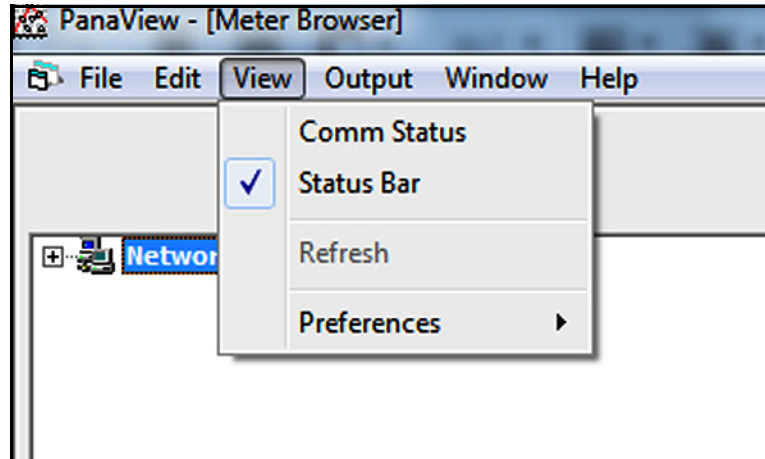
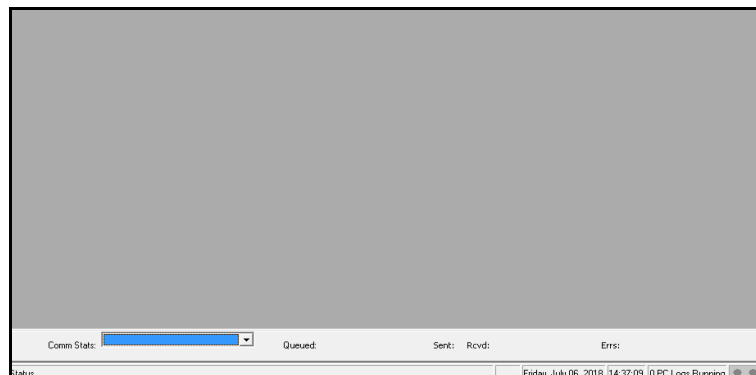

Figure 12: The View Menu
Figure 13: The Comm Status Bar
- **Status Bar** - by default on initial startup, it shows status messages (see *Figure 13* on page 13) such as: date, time, number of active logs, and number of communication errors (from left to right)
Prior to setting up communications with a meter, the "View" menu (see *Figure 12* below) provides three options for customizing the PanaView interface:
This option permits the user to toggle communications status bar to ON and OFF. The default state is "Off" as indicated by the absence of a check mark in *Figure 12 on page 13*. When toggled "On", the Comm Status bar appears just above the main Status bar (see *Figure 13 below*) and displays the following serial communications categories, from left to right:
Note: To make the image in *Figure 13* more readable on this page, the window was compressed horizontally from its actual dimensions.
The main *Status* bar shown in *Figure 13* on page 13 is always visible when PanaView is first started. However, it may be toggled on and off at any time during a PanaView session by selecting or deselecting it in the “View” menu. Its current state is indicated by the absence or presence of a check mark to its left in the *View* menu.
To access the “Preferences” option (see *Figure 12* on page 13), click on it in the “View” menu. Then, click on any of the tabs and proceed to the appropriate section for instructions.